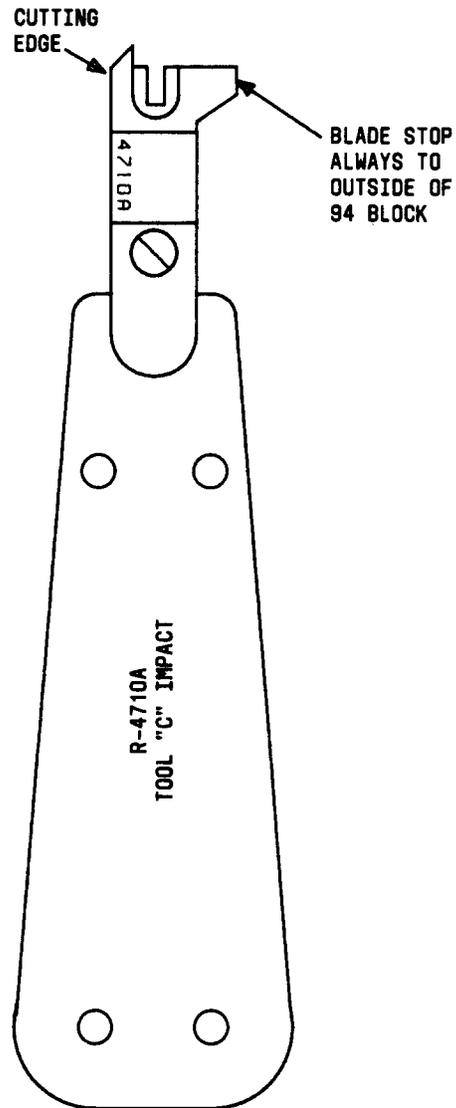

Fig. 2—R-4710A "C" Impact Tool With 4710A Blade
2.03 The R-4710A "C" impact tool (Fig. 2) has an adjustable impact force of 25 to 33 pounds